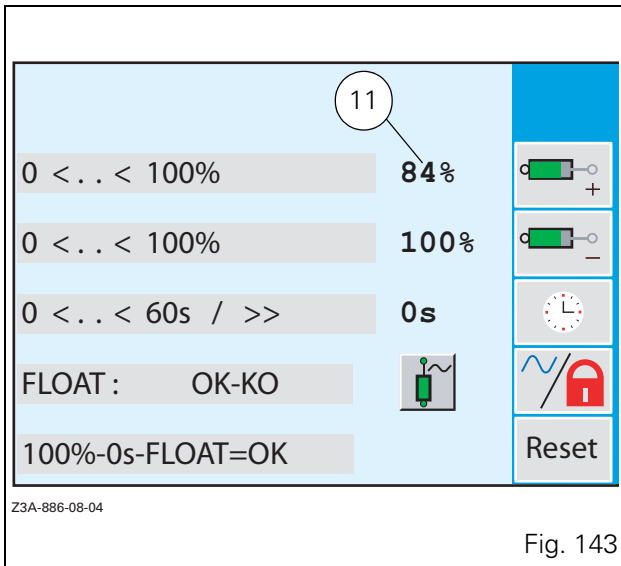

Fig. 143
- Validate the selected value by either pressing the encoder, or by pressing key <<2. The value is displayed in black (11 Fig. 143).